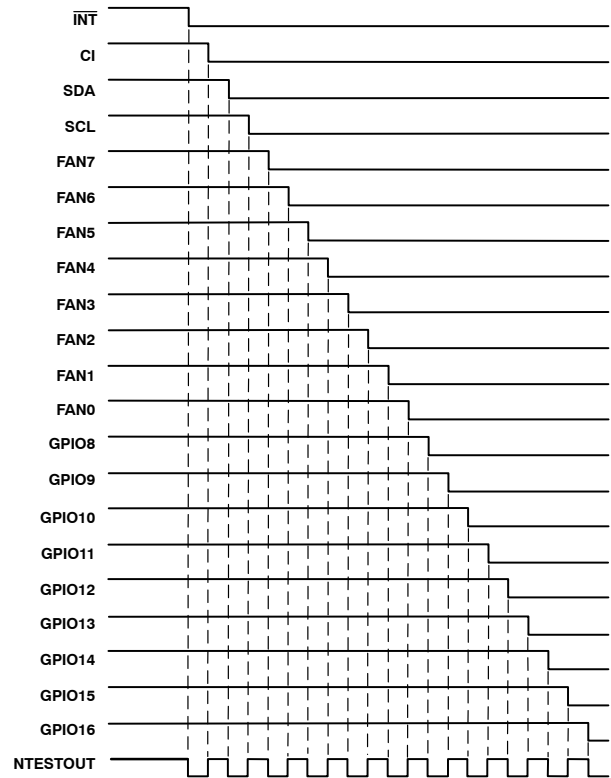

Figure 57. NAND Tree Test Taking Inputs Low in Turn
2. Start with all inputs high and take them low in turn, starting with the input furthest from NTEST_OUT ($\overline{\text{INT}}$) and working down the tree to the input nearest to NTEST_OUT (GPIO16/ $\overline{\text{THERM}}$). This should give a similar output pattern to Figure 57.